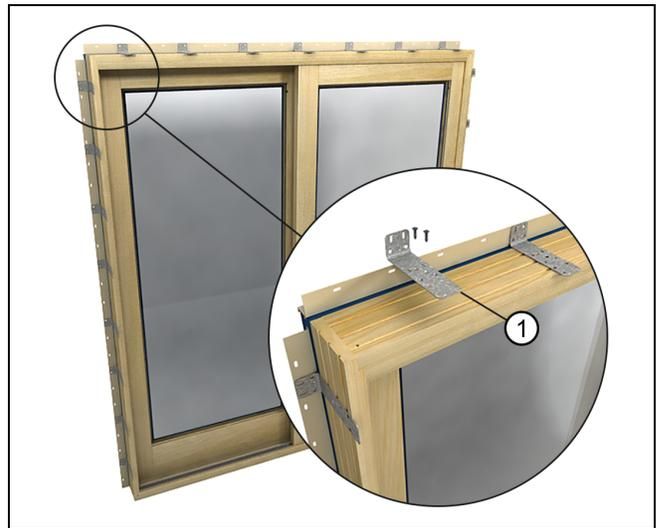

Figure 8
3. If you are installing your door with structural brackets or masonry clips, apply to the door frame once you are ready to place it in the opening permanently. Follow the instructions included with the brackets. See Figure 8.